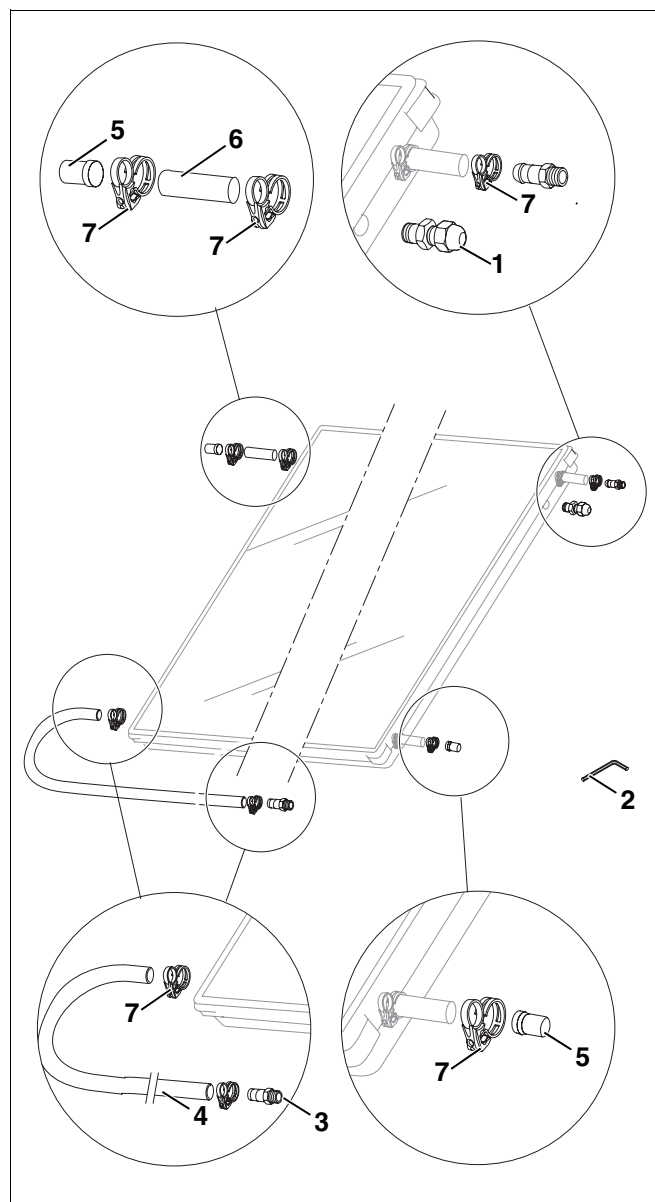

Fig. 4 Basic pipe set per collector row
4.2.3 Basic pipe set (per collector row) – Fig. 4